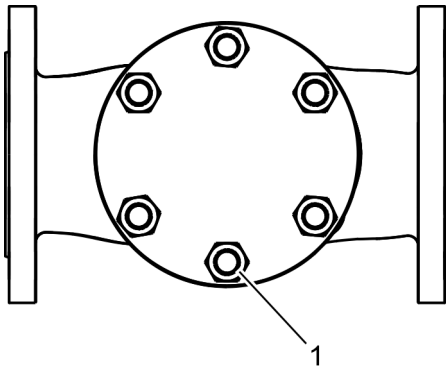

Fig. 7: Unscrew nuts (number of nuts/stud bolts can vary)
1. ➤ Evenly unscrew the nuts on the check valve cover (Fig. 7/1).